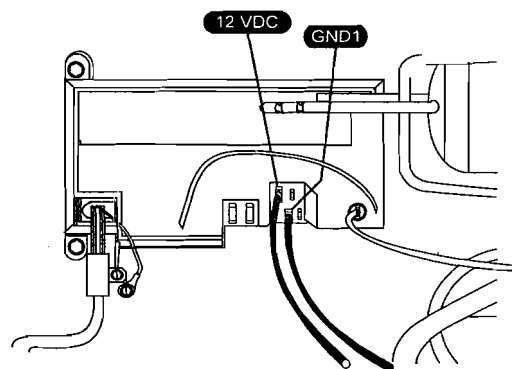

Figure 2. 12 VDC power board connections.
5. Disconnect the +12 VDC and -12 VDC power supply wires from power board. See Figure 2.